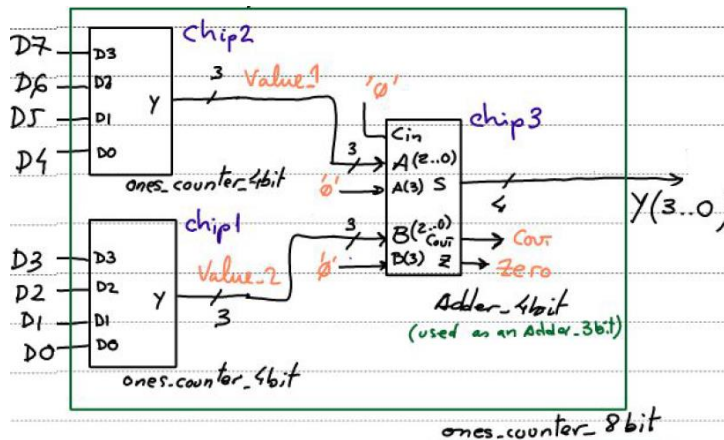

Fig. 25
- d) Invent the architecture of the *ones_counter_32bit* as a hierarchy of components (plan C2). For instance, Fig. 25 represents the schematic of a *ones_counter_8bit*. How many VHDL files will include this project? Check that your circuit works applying some input vectors.